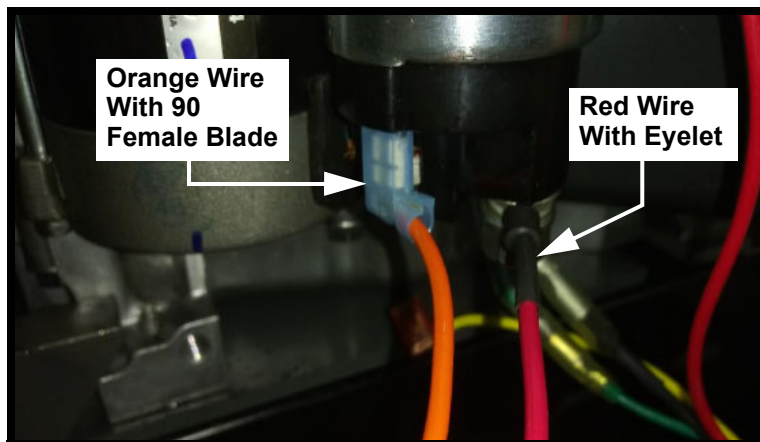

FIGURE 6
12. Connect the orange wire of the **725P15145** with the 90 degree female blade to the solenoid terminal where the yellow wire from Step 6 was removed. See Figure 6.
14. Connect the red wire with eyelet of the **725P15145** to the positive post of the solenoid and secure with the nut and lock washer removed in Step 13. See Figure 6